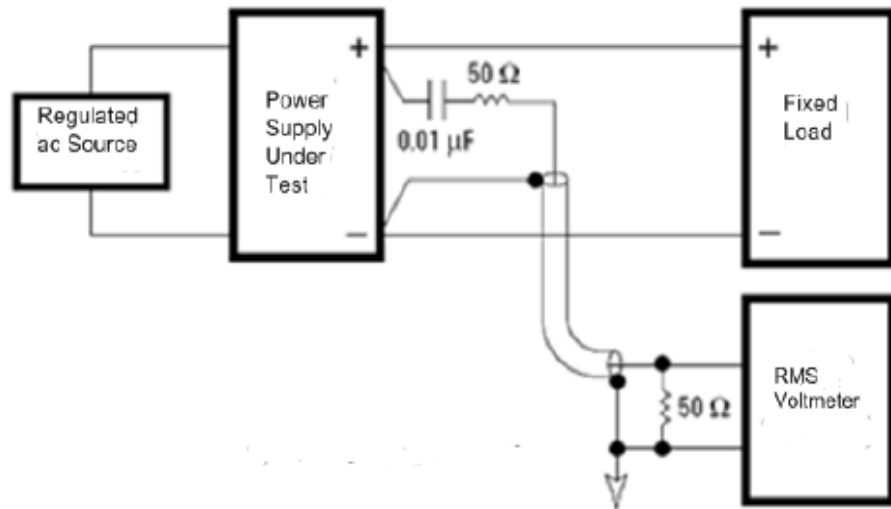

Figure 3-4 RMS ripple/noise measurement setup
- 7 Disconnect the oscilloscope and connect a RMS voltmeter in its place as shown in Figure 3-4. The RMS voltage reading does not exceed the RMS limit of 0.35 mV for each of the three outputs.
- 8 Repeat steps (1) through (7) for the remaining outputs.